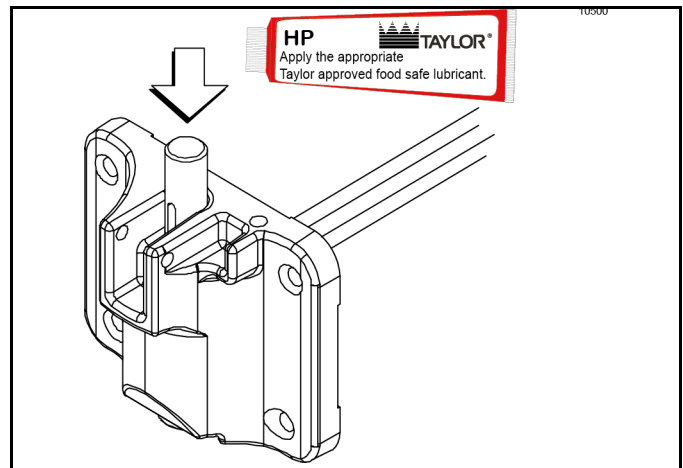

Figure 6-12
5. Insert the draw valve from the top, with the draw handle slot facing forward. (See Figure 6-12.)